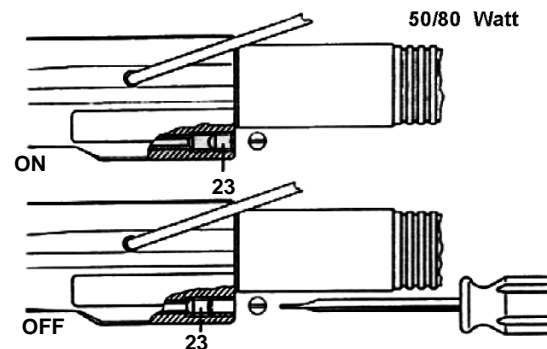

Fig. 12: Switching screw suction off (50-80 Watt)
- 50 and 80 Watt screwdrivers, by screwing in the grub screw (23) as far as possible using a screwdriver (see Fig. 12:).